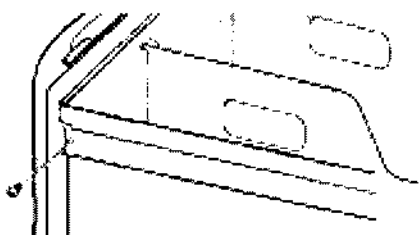

Fig. 1-8
11. Pull both drawer slides out and reassemble the drawer to the drawer slides with the two (2) Phillips head screws. (Fig. 1-8) Use of the two (2) dividers is optional. Close the drawer.